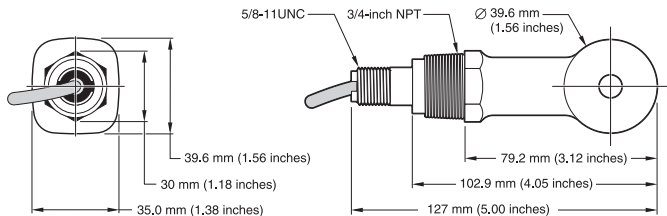

Figure 19 Convertible-style sensor
6. Due to the mechanical dimensions and the materials used, in certain process conditions such as dry environments or gas streams, hazards may arise due to electrostatic charging that could produce sparks capable of ignition when discharged. It is therefore necessary to comply with the following (refer to **Figure 19**):
plumbing standard) (refer to **Figure 19**). Mounting in the boundary wall between zone 0 and the less endangered area is to be undertaken properly such that an adequately sealed gap (IP 67) is obtained.